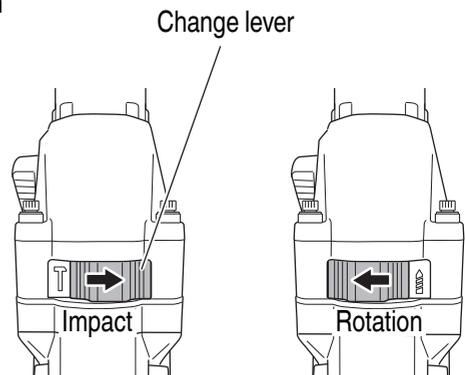

Fig. 4
9. IMPACT to ROTATION changeover (**Fig. 4**)